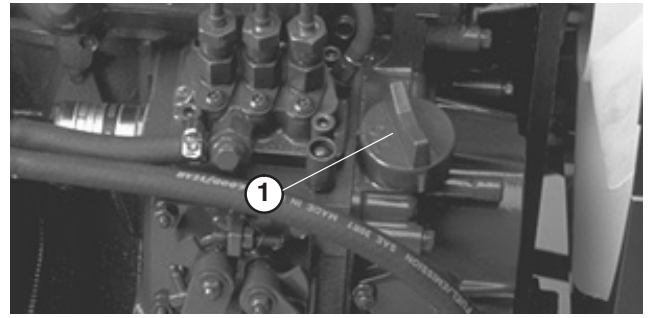

Figure 29
3. If oil level is low, remove oil fill cap (Fig. 29) and gradually add small quantities of oil, checking level frequently, until level reaches FULL mark on dipstick.